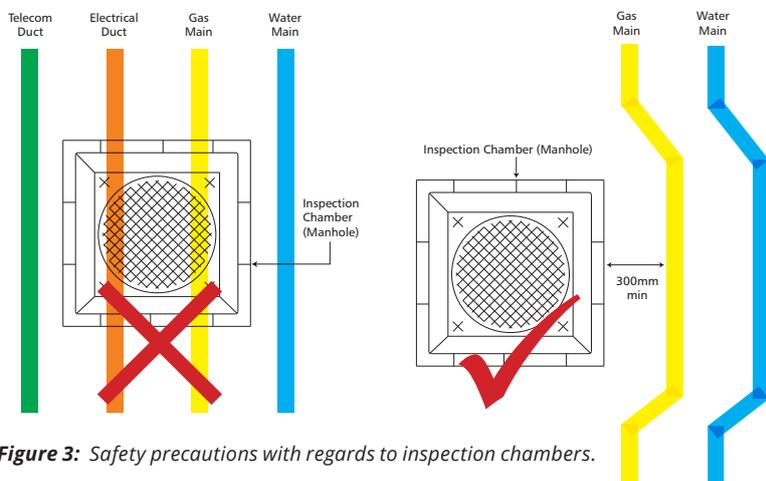

Figure 3: Safety precautions with regards to inspection chambers.
- A distance of 300mm must be provided when a gas main is placed adjacent to an inspection chamber (see figure 3)